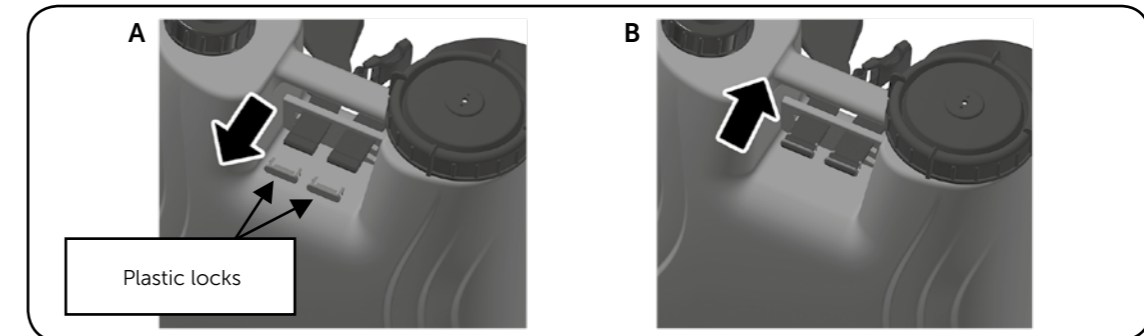

Figure 8. Belt adjustment procedure.
**Figure 8.A** - Pull the belt ends of the fittings on the equipment tank and remove the plastic locks (indicated by the arrow) which is found housed in the ends of the belts, releasing them totally;
**Figure 8.B** - Choose the new adjustment position in the tank, place the belts and insert the plastic locks in the end of the belts. Then reattach the belts with the plastic locks in the equipment tank.